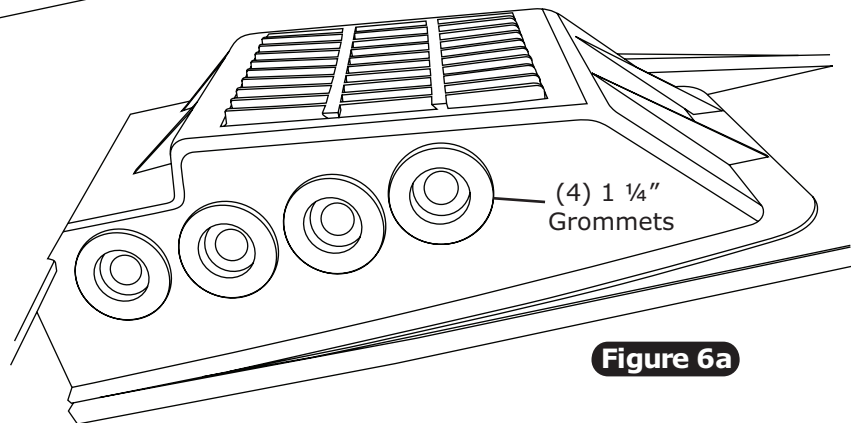

Figure 6a
2. Install (4) 1 1/4" grommets in airbox. (See Figure 6a, below).